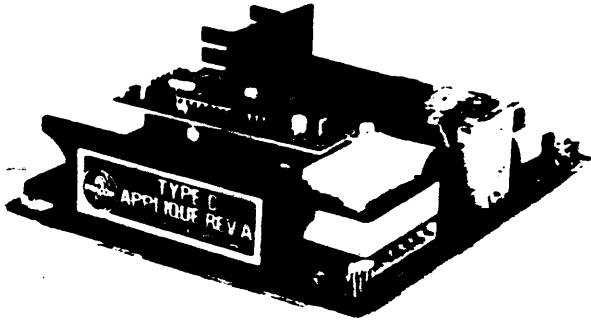

Fig. 5—Type C Applique—Issue 1
3.13 The Type C Applique REV A Card (Fig. 5 and 6) is required in a majority of the PagePac applications. The applique is a plug-in circuit card which mounts in the **APPLIQUE** position of the card file and provides the interface to a variety of telephone access arrangements. It also provides rotary-dial or DTMF selection of up to 24 zones and access to special features.